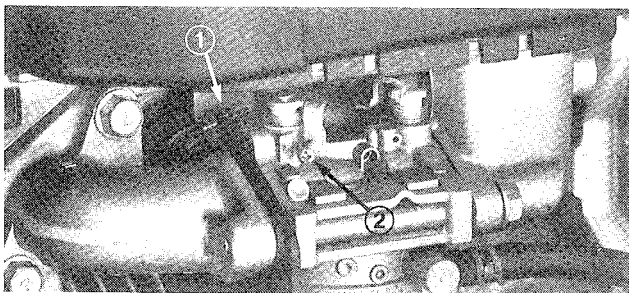

Figure 20
1. Idle Mixture Screw (Fig. 20) — Close screw by gently rotating it clockwise.
2. Rotate — open — the screw $1-1/8$ turns counterclockwise (Fig. 20).